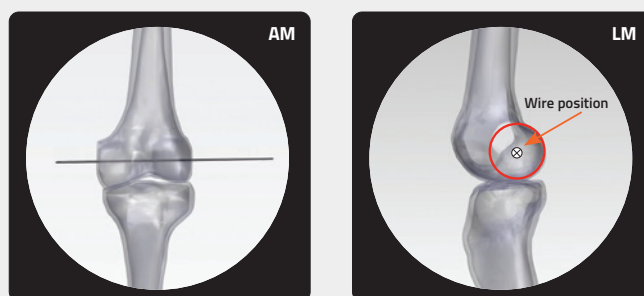

Fig. 6
- Slide hinges on the wire and attach the hinges to the rings starting proximally Fig. 6.